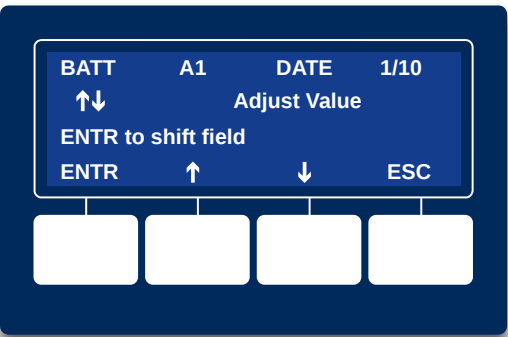

Fig. 2-9, Enter Battery Date Code
- 20. Enter the battery DATE code and the MHOs (conductance) readings. Battery date and MHOs entries can be made on the LCD (see Figs. 2-9 and 2-10).